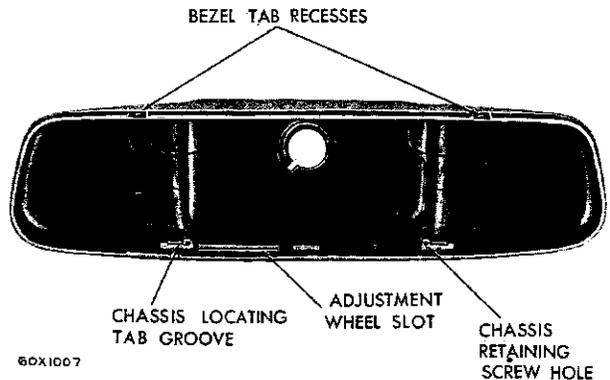

Fig. 21—Locating the Grooves
(2) Carefully pull the bezel from the case assembly.
(3) Locate the ball joint in the down position towards the adjustment wheel.
(4) Bend the top of the case upwards to disengage each of the upper tabs from the case retaining grooves (Fig. 21).
(5) Press on the ball joint extension so as to tip the mirror assembly out of case.
(6) Pivot the adjusting wheel in the slot of the case until the upper part of the electronic chassis is outside of the upper forward edge of the case.